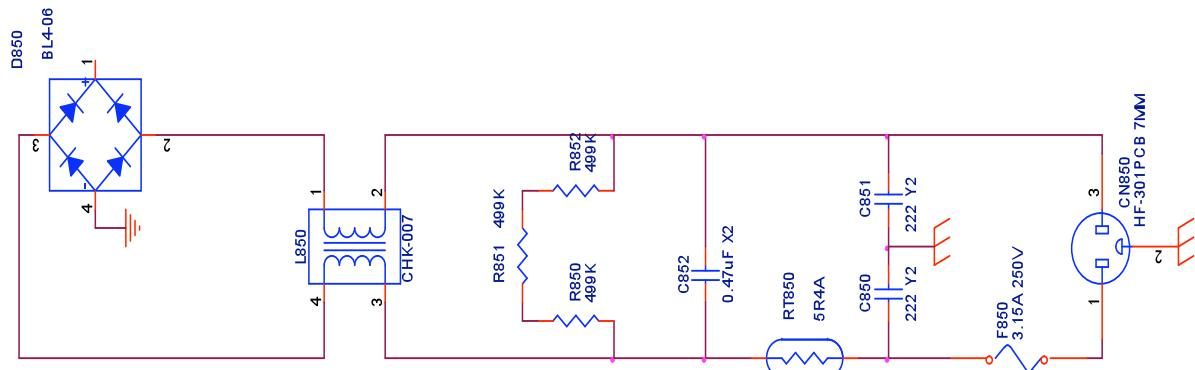

fig.5
2.2.2) AC Input and EMI Filter:(fig.5)